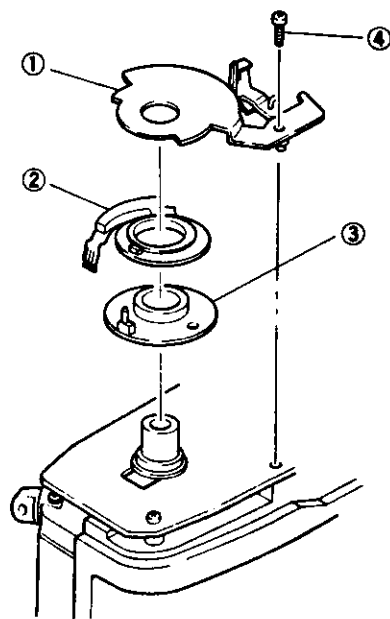

Fig. 35
- 1) Make sure the contacts of the ASA CONTACT ASSY (No. 3) and the BLC CONTACT ASSY (No. 2) shown in Fig. 35.